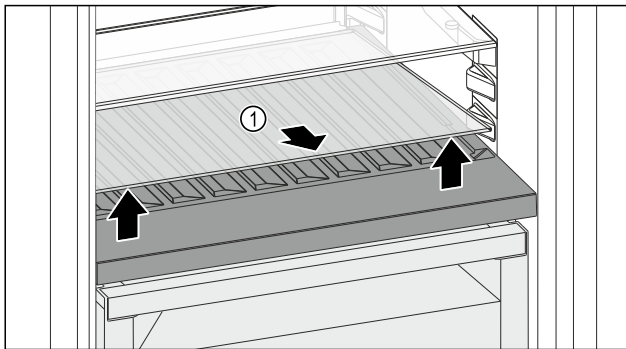

Fig. 132
- ▶ Lift the glass shelf Fig. 132 (1) at the front and remove.
- ▶ Store the glass shelf Fig. 132 (1) in a safe place outside the appliance.